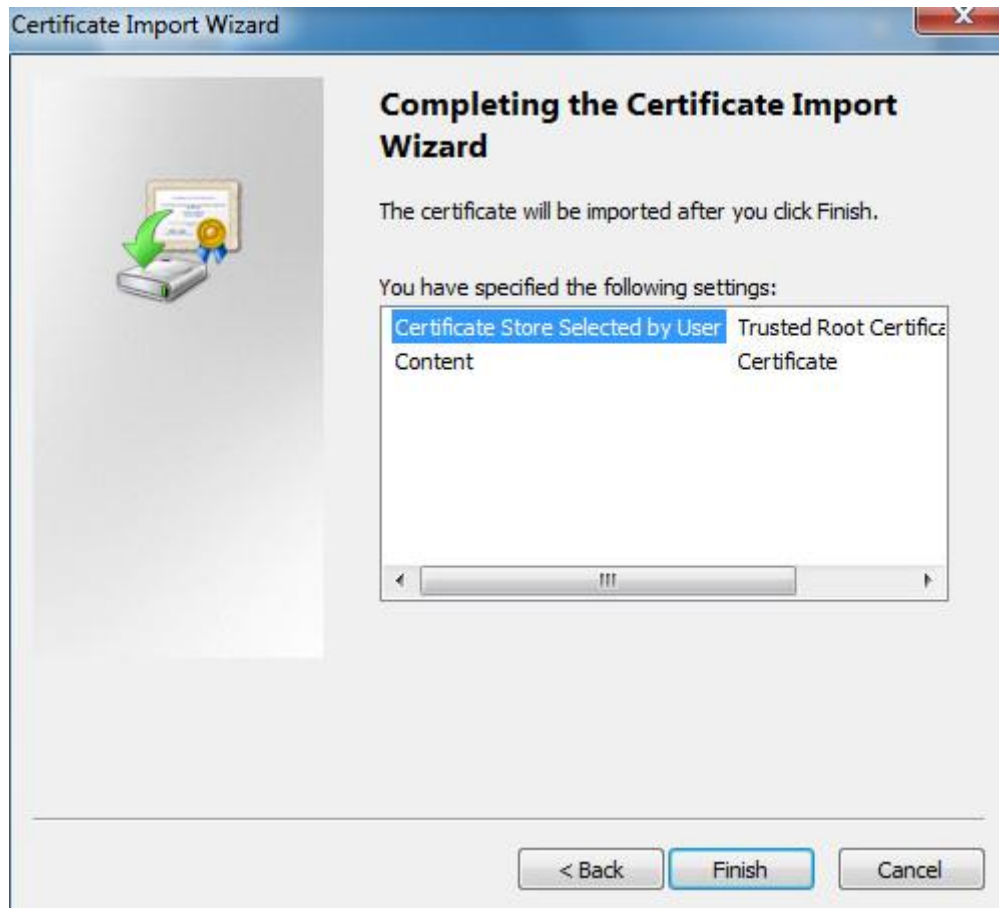

Figure 4-59
4. Select "Place all certificated in the following store", click "Browse" to set "Certificate Store" as "Trusted Root Certification Authorities", and click "Next". The system will display the interface of "Completing the certificate import wizard", which is shown in Figure 4-59.